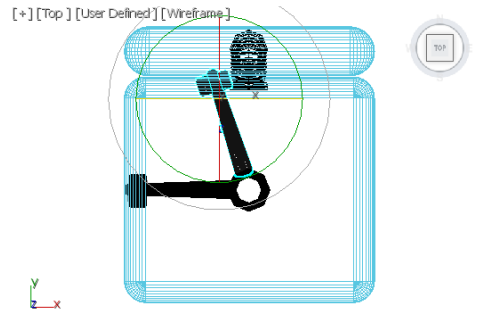
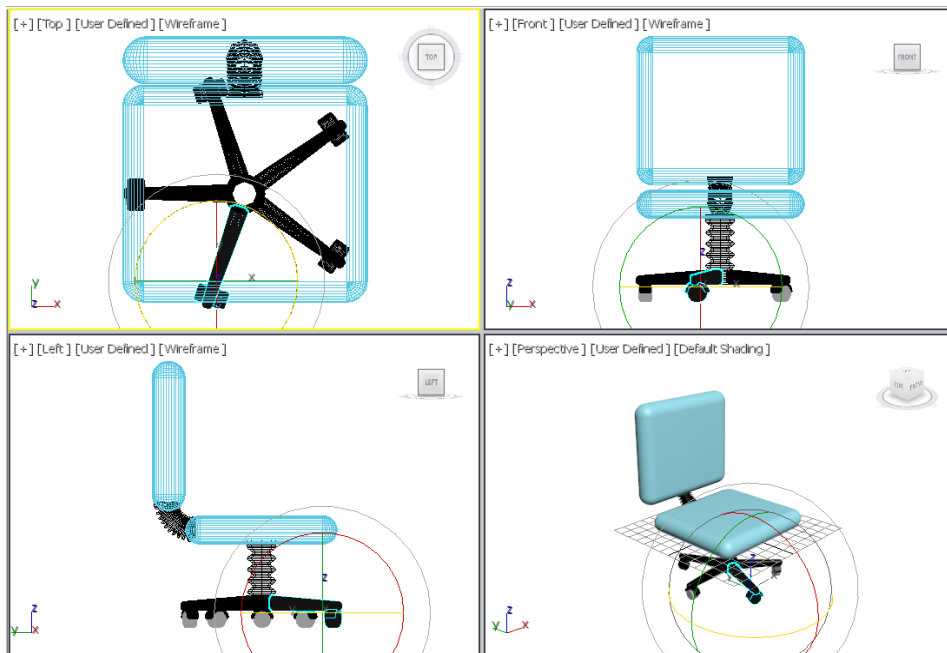

Figure 3-45 The *f_leg01* group rotated about -72 degrees with respect to the working pivot point
Figure 3-46 The *f_leg002*, *f_leg003*, *f_leg004*, and *f_leg005* in viewports
22. Move the cursor over the Z-axis that is blue in color; it get highlighted in yellow color. Now, press and hold the SHIFT key as well as the left mouse button and drag the cursor until the value in the **Z** spinner in the coordinate display becomes about **-72**, refer to Figure 3-45. Release the left mouse button; the **Clone Options** dialog box is displayed. Make sure that the **Copy** radio button is selected. Set **4** in the **Number of Copies** spinner. Choose the **OK** button; *f_leg002*, *f_leg003*, *f_leg004*, and *f_leg005* are displayed in the viewports, as shown in Figure 3-46.